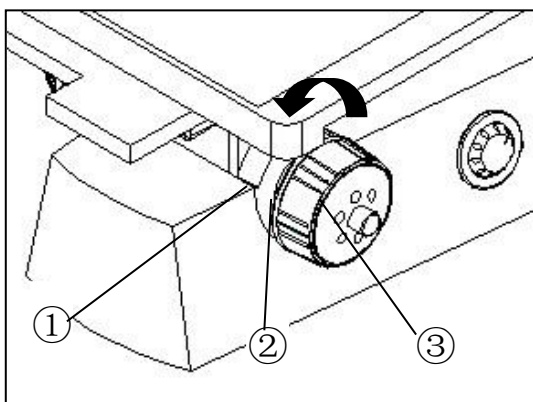

Fig.28
3.2.8 Adjusting the Tension Adjustment Collar (Fig.28)